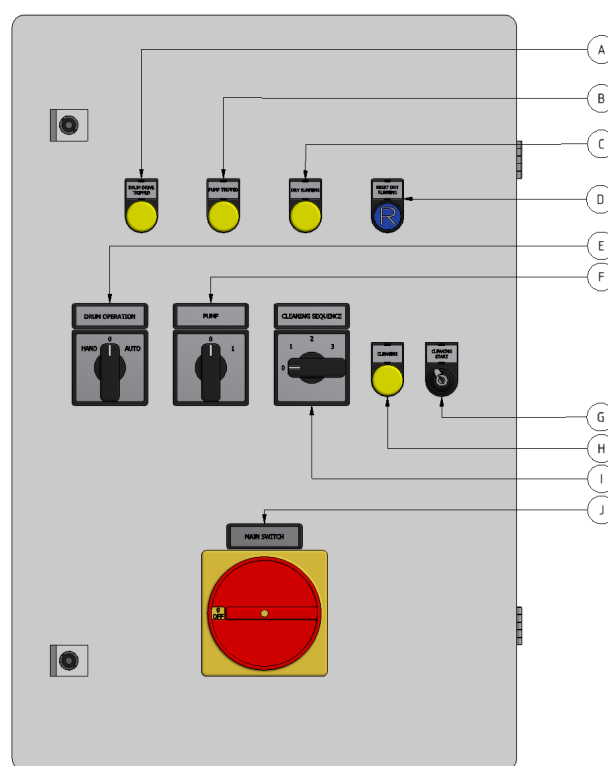

Figure 5.1 Front of the control cabinet.
2. Turn the pump switch to the OFF (0) position (see F in Figure 5.1).
3. Set the main power switch to the ON (1) position (see J in Figure 5.1).
4. Set the mode selector to the HAND position (see E in Figure 5.1).
Turn the mode selector to select the operating mode (see E in Figure 5.1).